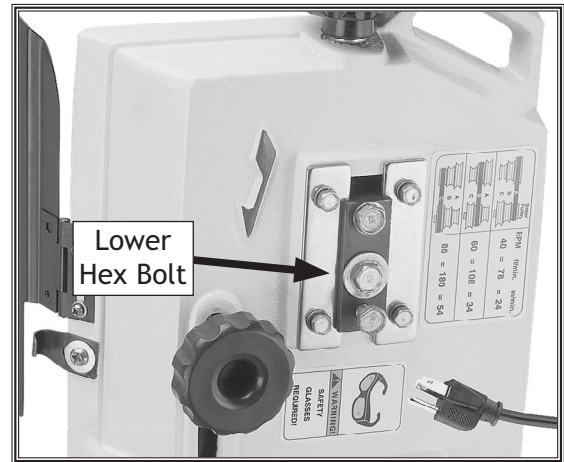

Figure 46. Blade wheel tilting lower hex bolt.
4. Loosen, but do not remove the lower hex bolt in the blade wheel tilting mechanism shown in **Figure 46**.